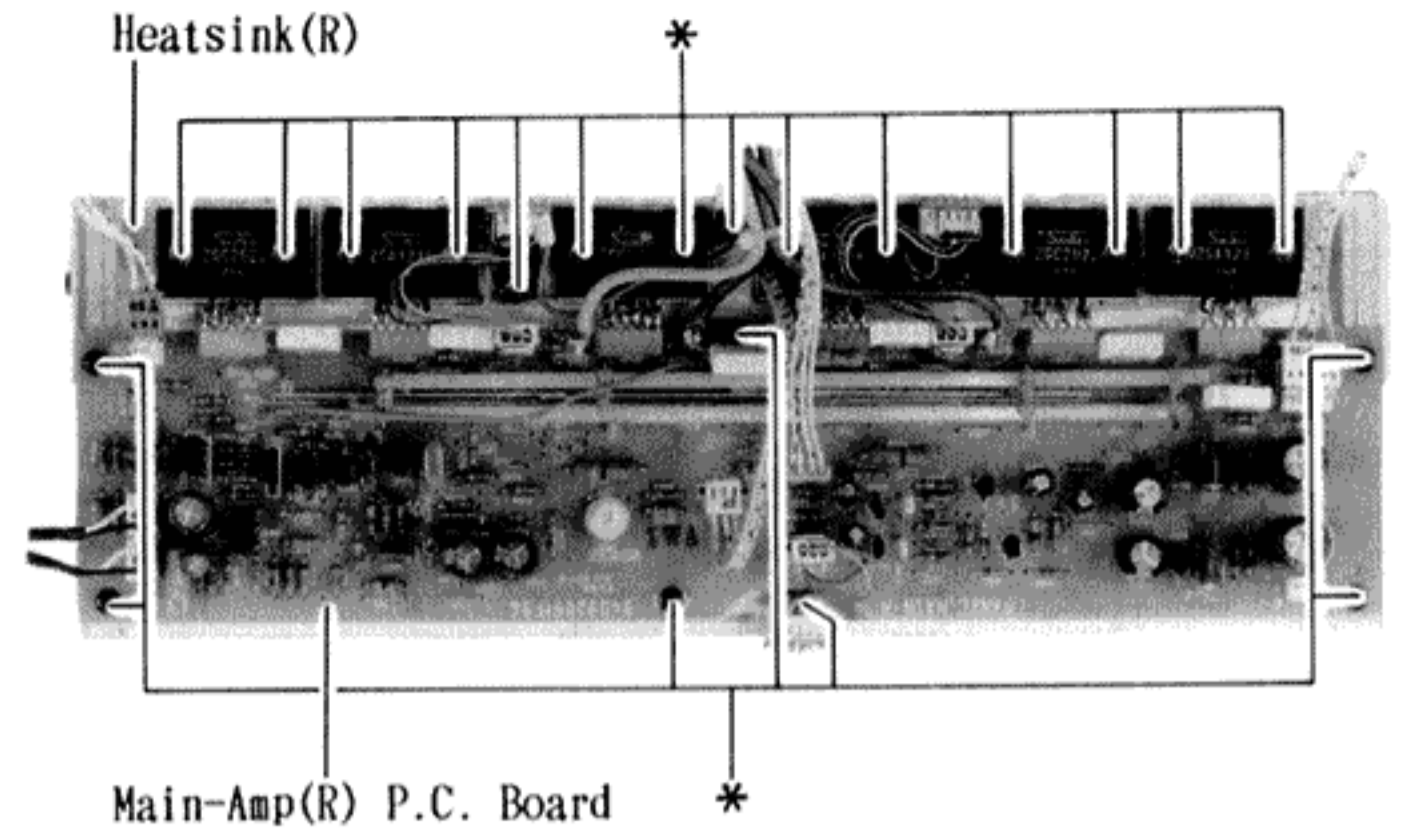

Figure 6
(1) After removal of Heatsink(R) remove twenty two screws marked " * " as shown in Figure 6.